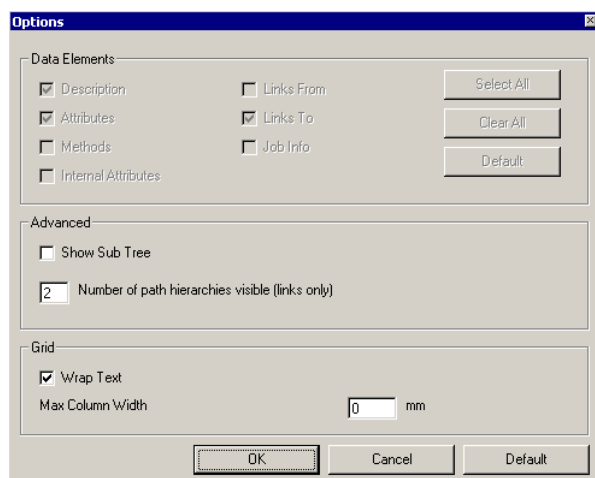

Figure 3-2.51: Window 'Options' of the Table Editor
- Use the **Option** button to popup the window shown below (Figure 3-2.51). Here, further settings of the table appearance can be done: